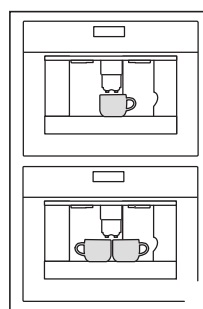
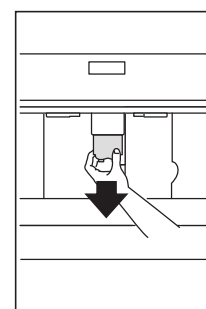

Fig. 16
Fig. 17
- ▶ Place 1 cup under the spouts to make 1 coffee (Fig. 16) or 2 cups for 2 coffees (Fig. 16). Lower the spouts as near as possible to the cup for a creamier coffee (Fig. 17).